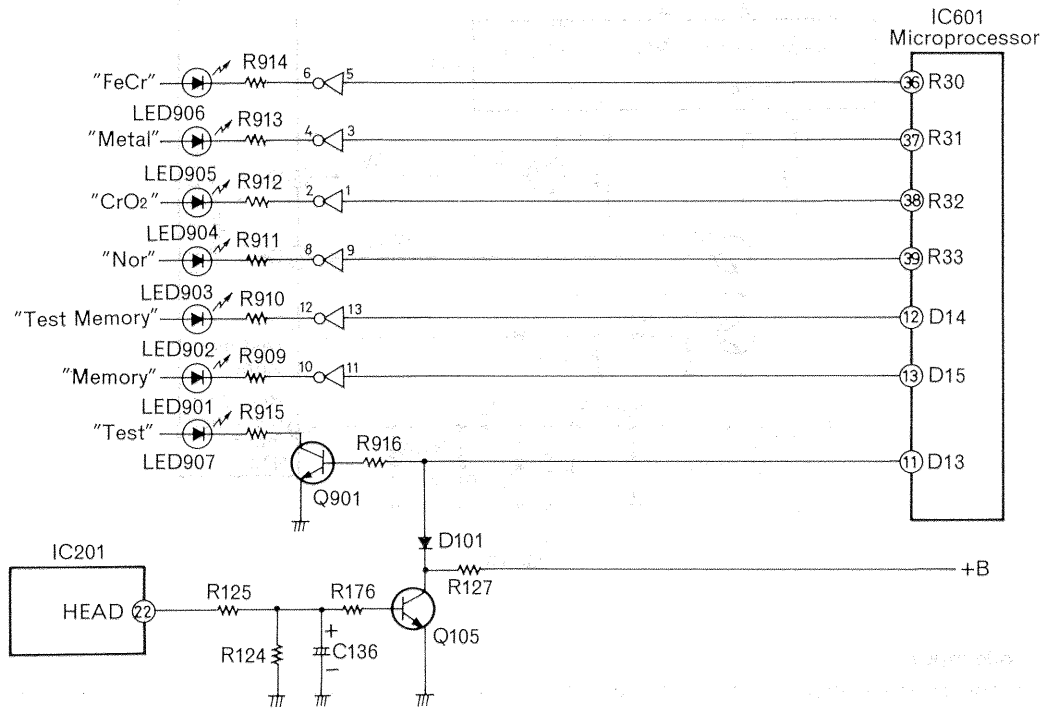

Fig. 16
Fig. 16 shows the key indicator circuit corresponding to key input. FeCr, Metal and CrO2 outputs of terminals ③⑥-③⑧ of IC601 become REC, PLAY equalizer and REC bias circuit selection signals as well as indicator control signals.